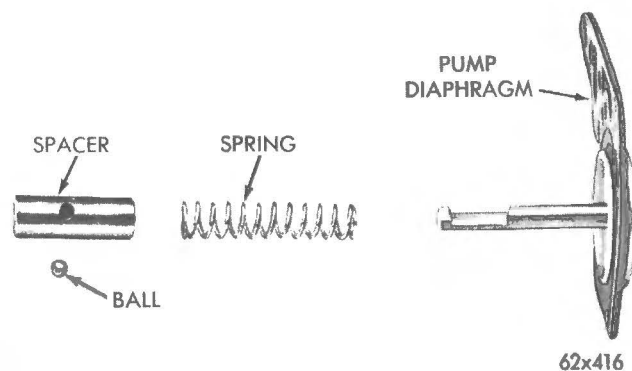

Fig. 17 - Pump diaphragm (exploded view).
(3) Install the fast idle and curb idle speed screws and springs in the throttle lever.
(4) Refer to Fig. 17, then slide the pump diaphragm spacer spring over the diaphragm stem, followed by the spacer.